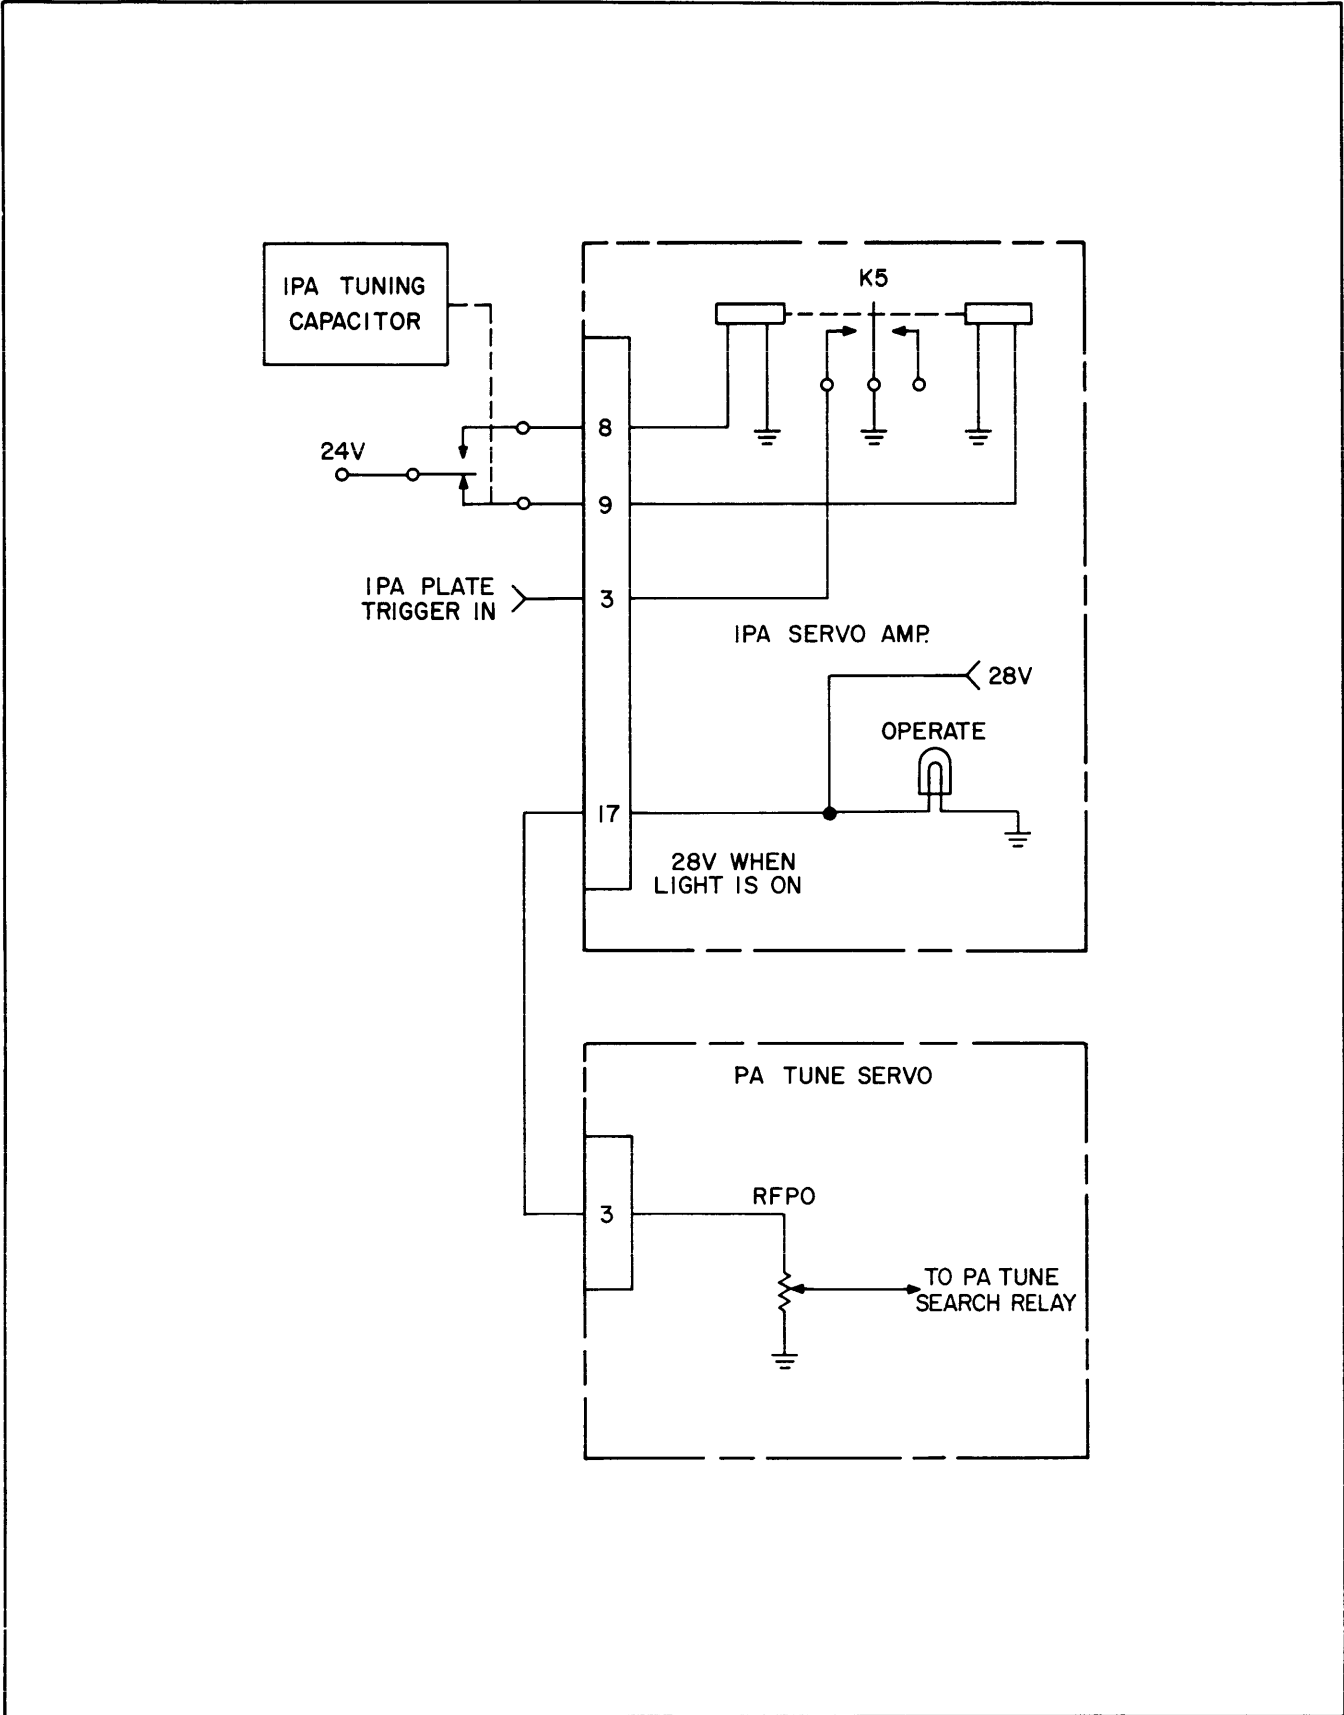

Figure 4-5. IPA Plate Trigger Shorting and RFPO Input to PA Tune Servo
e. IPA OPERATE. (Refer to Figure 4-5 and CK-1680.)
The condition of relay K5 is controlled by a lever on the IPA Capacitor shaft, activating one of two microswitches. During the undesired portion of the IPA Tuning Capacitor rotation, contacts 6 and 7 of K5 ground the IPA plate trigger input at pin 3. (Refer to Figure 4-5 and paragraph 4-7e).